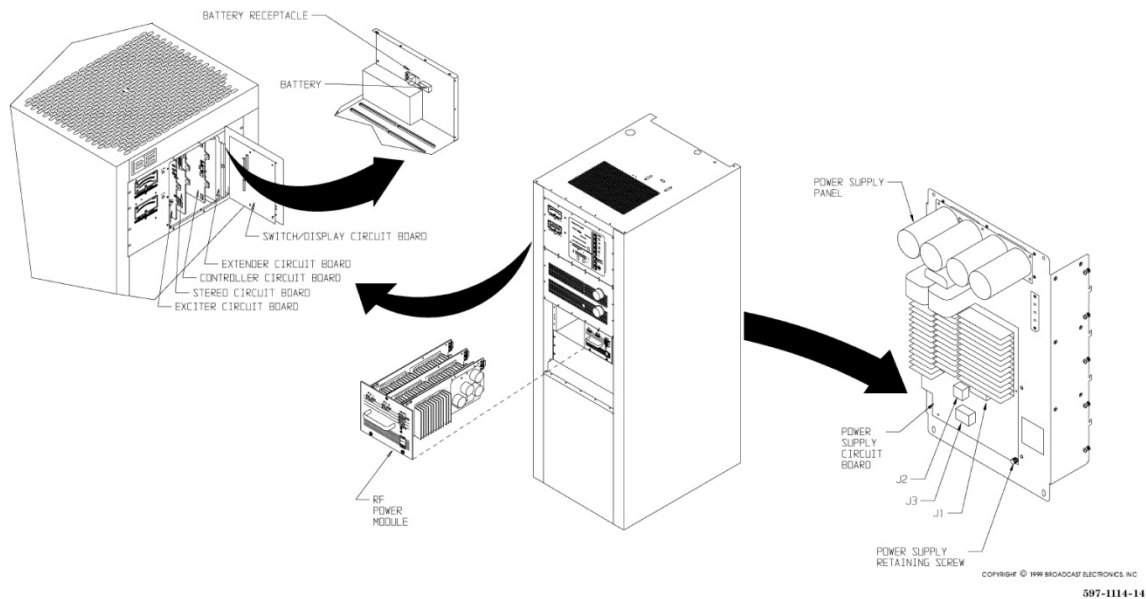

Figure 2-4: Component Installation
1. Refer to Figure 2-4 to determine the circuit board location.
The RF power module is removed for shipment. Locate the RF power module shipping containers. Refer to Figure 2-4 and re-install the modules.
The ECU is equipped with a battery system. Refer to Figure 2-4 and install the battery in the battery receptacle.
The AM-2.5E and AM-5E transmitters are designed with programmable transmitter operating characteristics. The operating characteristics are determined by the programmable circuitry on the ECU circuit boards (refer to Figure 2-4). Refer to the following text and program the circuitry for the desired operating characteristics.